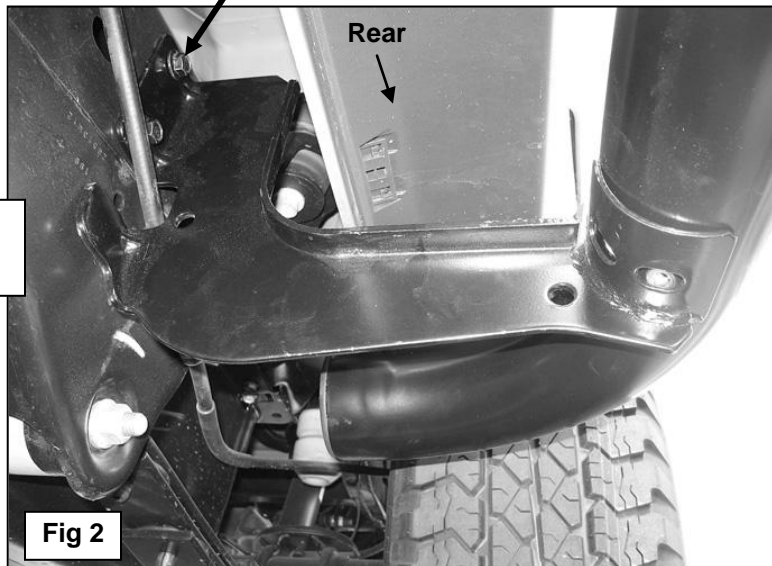

Fig 2
2. Starting on the driver side of the vehicle, locate the two threaded holes toward the front of the frame. Select the driver side Front Mounting Bracket and bolt it to the threaded holes with (2) 10-1.5mm x 30mm Hex Bolts, (2) 10mm Flat Washers and (2) 10mm Lock Washers, **(Figure 1)**. Snug but do not tighten hardware at this time. Repeat this step for the rear Mounting Bracket installation, **(Figure 2)**.